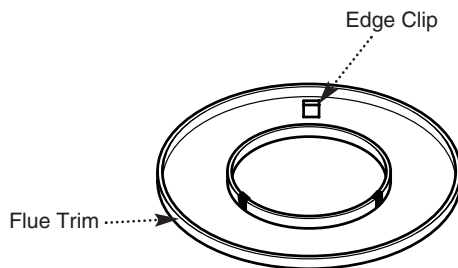

Fig. 29a
- b) Take the three edge clips from the kit and fit them equi-spaced onto the inner flange of the trim (Fig. 29a).